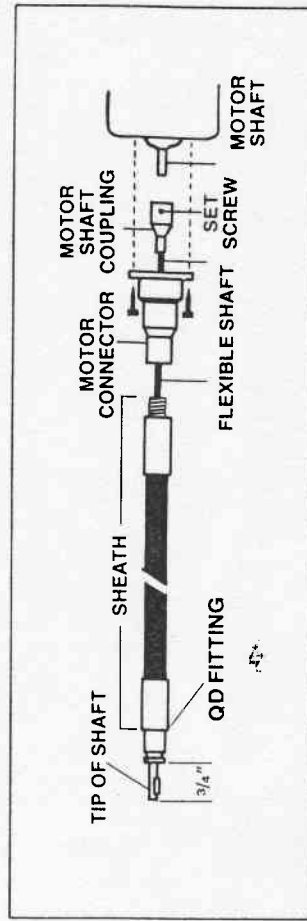

FIGURE 4
1. Unscrew sheath from motor connector. (See figure 4)